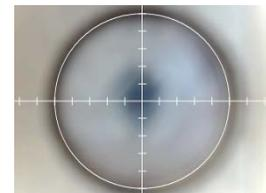

Figure 5-5: Tactile Switch Enclosed by Grid
- In the Camera Window, select **Grid On**. Use the X and Y motion control buttons to surround the Tactile Switch with the grid circle. The shape should measure 10 millimeters across (5 grid tics from center each way), as shown in Figure 5-5.